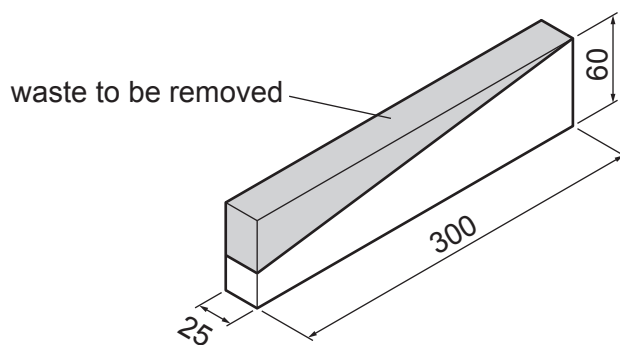

Fig. 13.3
- (d) Fig. 13.3 shows one hardwood leg marked out ready to be shaped.